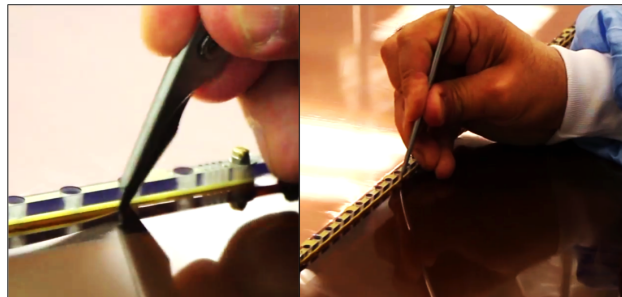

Figure 87: Cutting the excess Kapton foil.
Step 2: Use a sharp blade to remove the excess Kapton foil. Start in the corners where the foil is partially pre-cut, and continue carefully all around the trapezoid (Fig. 87). Use the Plexiglas cover as a stencil when cutting along the frames.